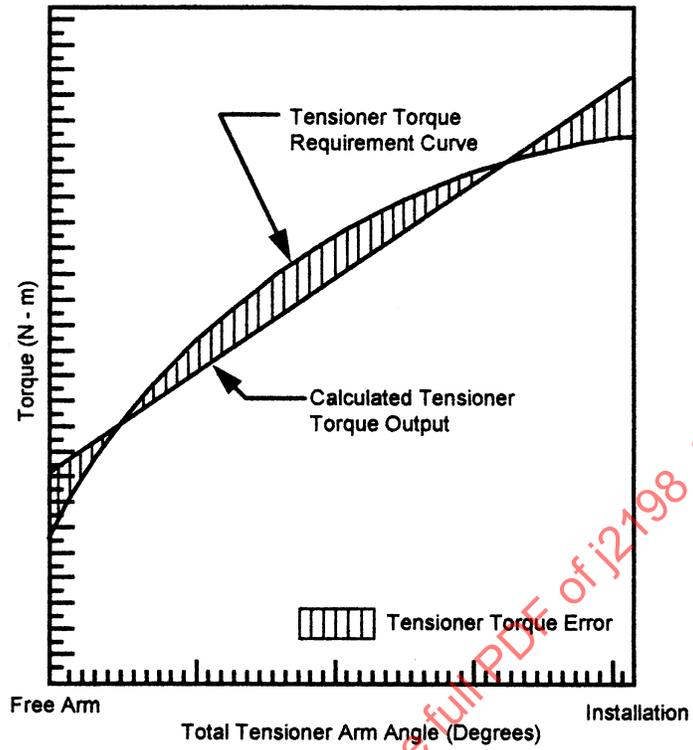

FIGURE 1—TENSIONER TORQUE ERROR CURVE
- 3.1 **Tensioner Torque Requirement Curve**—The torque required to control belt tension in the tensioner range of travel. (See Figure 1.)
- 3.3 **Tension/Torque Error Curves**—The tension/torque curves representing calculated tensioner output as compared to the tensioner torque requirement curve. (See Figures 1 and 3)